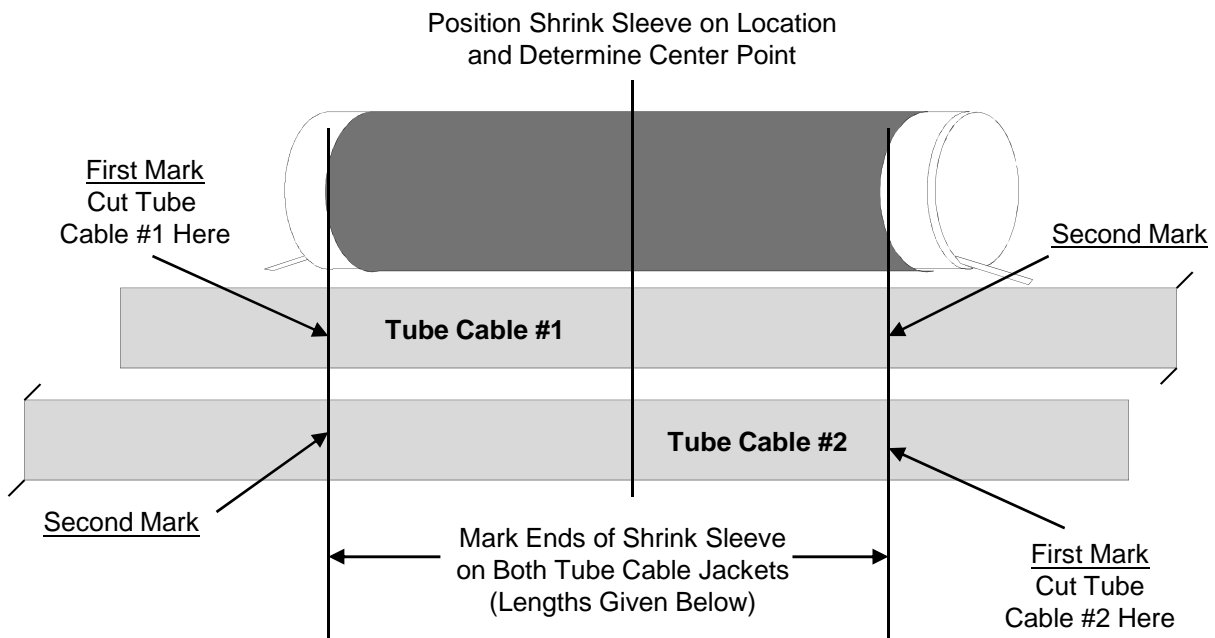

Figure 2
6.4 Mark both tube cable jackets to coincide with left and right ends of shrink sleeve. **See Fig. 2.**